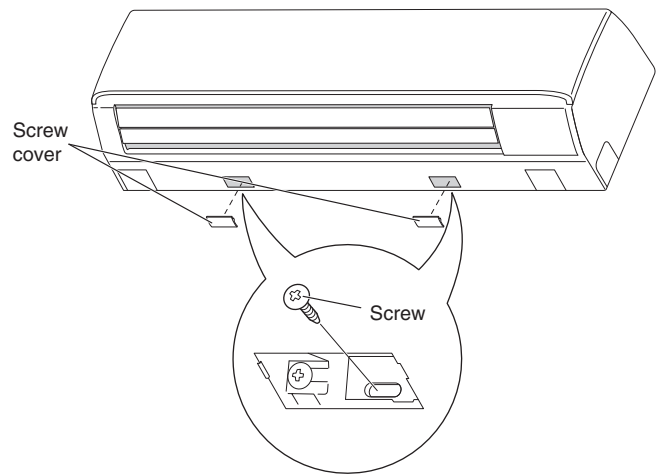

Fig. 3-34
(Fig. 3-34)
- (2) Fasten the frame to the rear panel using the 2 supplied tapping screws 4 × 10 mm. (Fig. 3-34)
- (3) Press the 2 △ marks on the lower part of the indoor unit and unlatch the tabs. Then lift the indoor unit and unmount.